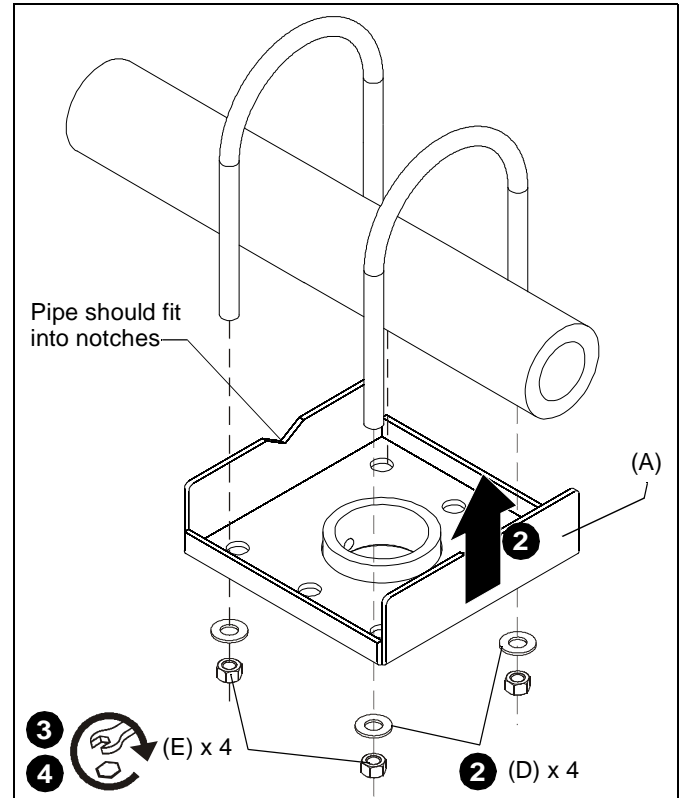

Figure 2
2. Raise truss plate (A) up and insert U-bolts through holes in truss plate. (See Figure 2)
NOTE: If installing truss plate (A) to pipe, ensure that pipe fits into notches in plate. (See Figure 2)